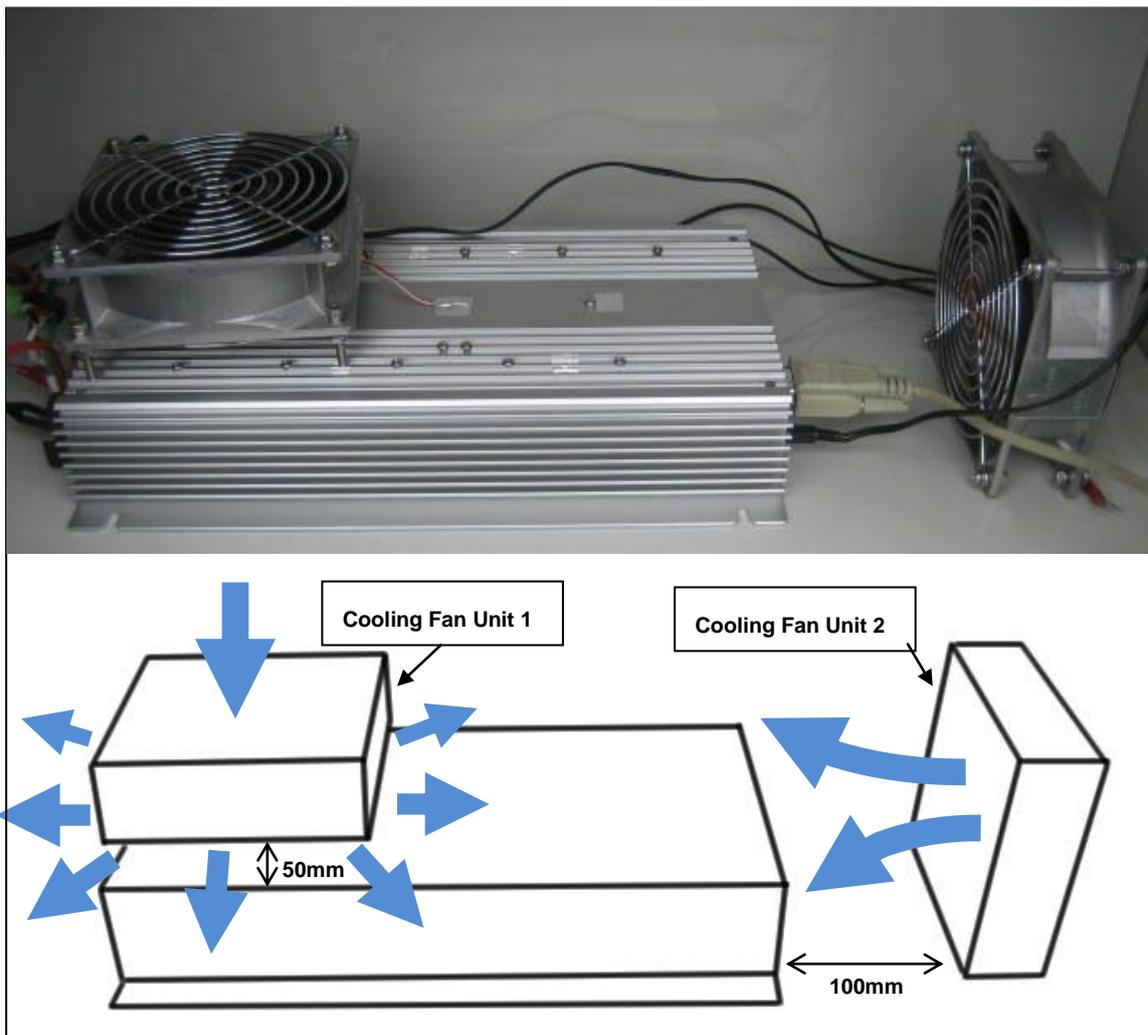

Figure 5-2-1. Recommended Setup for MP-410
- 3) Forced cooling using a ventilator is recommended, setup 2 units of additional cooling fans around the MP410 as shown on Figure 5-2-1.